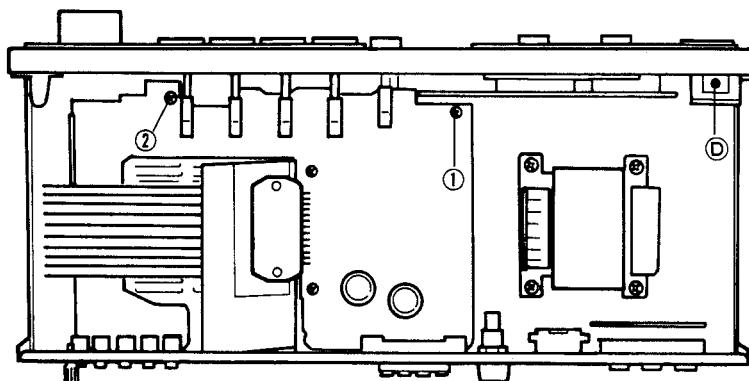

Fig. 2
4. Remove screws ④ ~ ⑩ and plastic rivet ⑪ to set the front panel free. (Fig. 2, Fig. 4)